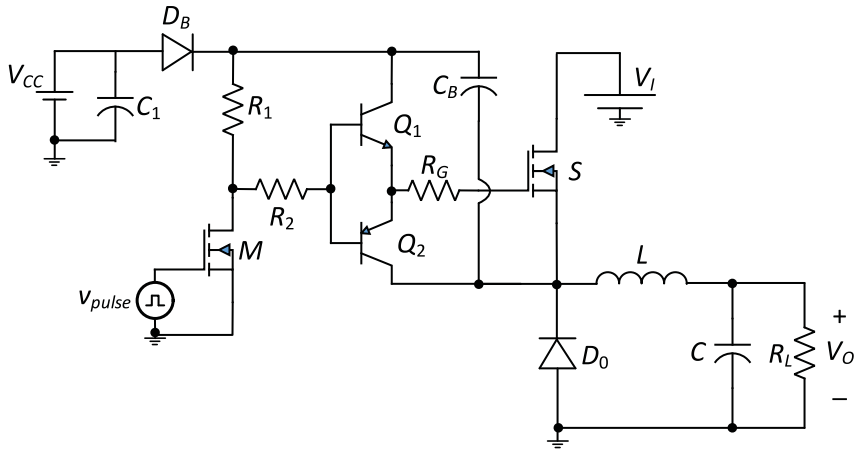

Figure 10.1 Circuit diagram of the PWM buck dc–dc converter.
1. Construct the circuit of the buck converter with the gate-drive circuit shown in Figure 10.1 on the circuit simulator. Name all the nodes and components for convenience.